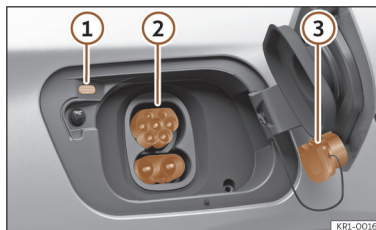

Fig. 58 Behind the battery charging cover on the rear right-hand side.
- Remove the protective cap and hang it on the hook >>> **Fig. 58** ③
- Plug the charging station's charging connector into the charging socket >>> **Fig. 58** ②
The LED (charging process indicator) of the charging socket flashes or flashes white >>> **Fig. 58** ① >>> page 80
The charging process indicator on the charging socket ① flashes green >>> **Fig. 58**.
- Tap the **Stop charging** function button on the infotainment system display. The charging process indicator located next to the charging socket ① lights up white >>> **Fig. 58**. The charging connector is unlocked.
- Place the protective cap on the charging socket's lower connection >>> **Fig. 58③**
① NOTICE